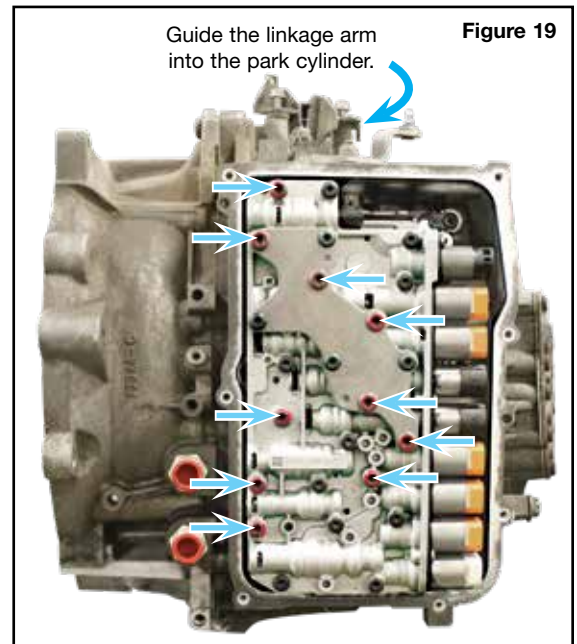

Figure 19
- c. Install the valve body onto the case, while guiding the linkage arm into the park cylinder as shown with the blue arrow (**Figure 19**).
- d. Install the ten 40 Torx bolts (light blue arrows) and torque to 8Nm (71 in-lb) (**Figure 19**).